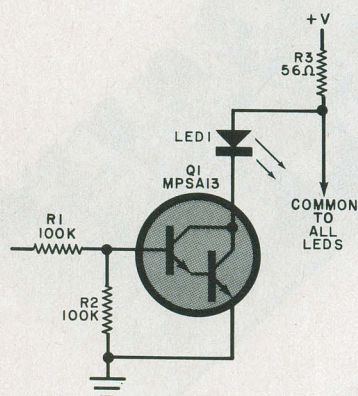

Fig. 1. Basic circuit consists of a Darlington transistor driving a LED.
**Basic Circuit.** As shown in Fig. 1, the basic circuit consists of a relatively high-input resistance (100,000 ohms) Darlington transistor driving a LED. Resistor *R2* ensures that when the input is logic 0 (low), the transistor will be cut off and the LED will remain dark. This circuit is duplicated for each required pin connection. Current-limiting resistor *R3* is common to all LEDs.